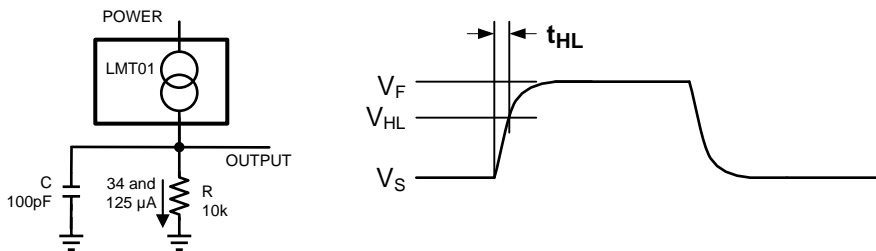

Figure 26. Simple RC Model for Rise and Fall Times
Stray capacitance can be introduced when connecting the LMT01 through a long wire. This stray capacitance influences the signal rise and fall times. The wire inductance has negligible effect on the AC signal integrity. A simple RC time constant model as shown in Figure 26 can be used to determine the rise and fall times.
- RC as shown in Figure 26
- (2)